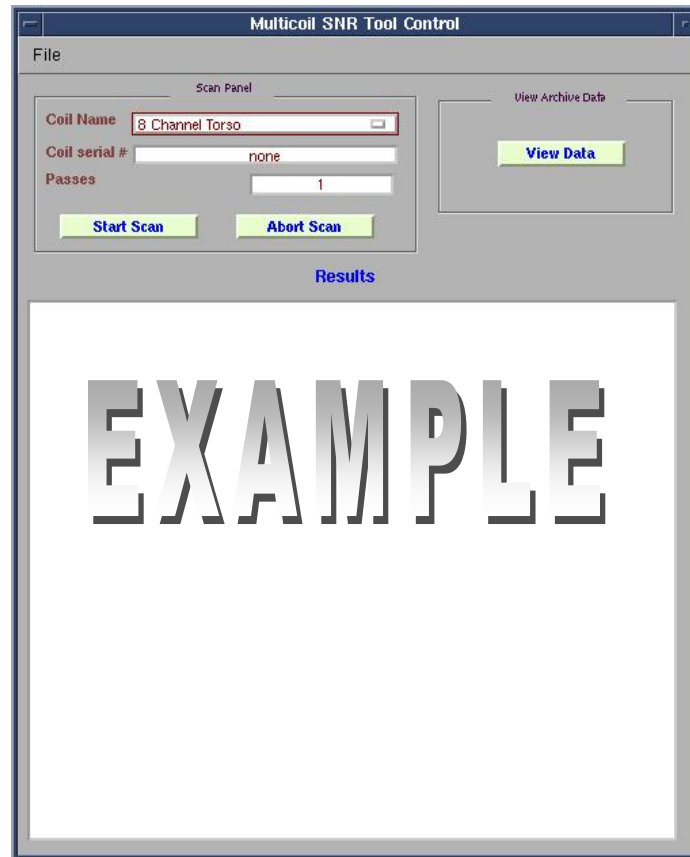

Figure 6: Multicoil SNR Tool Control window.
Step 6 – Select the **[8- Channel CTL Array]** from the Coil Name selection menu on the Multicoil SNR Tool Control window (see *Figure 6*).